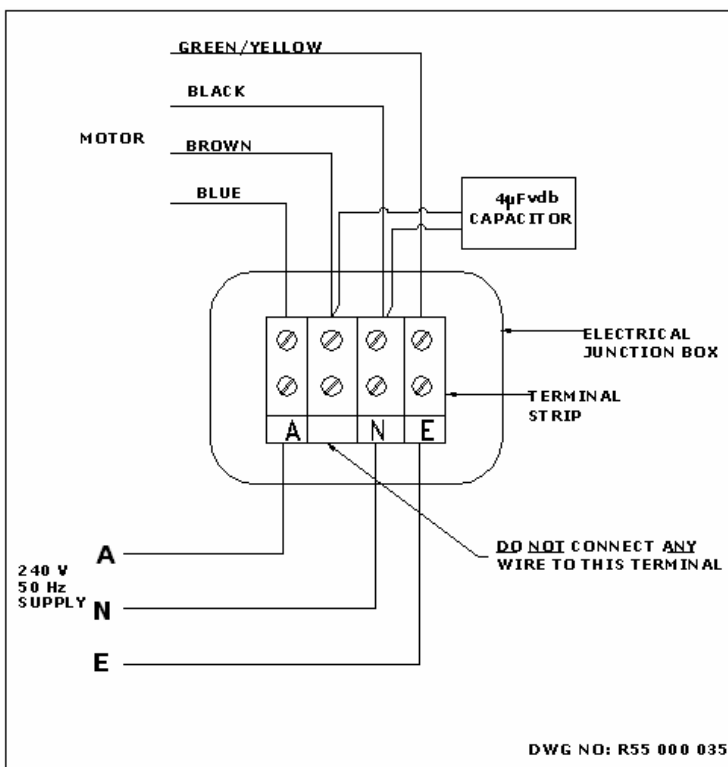
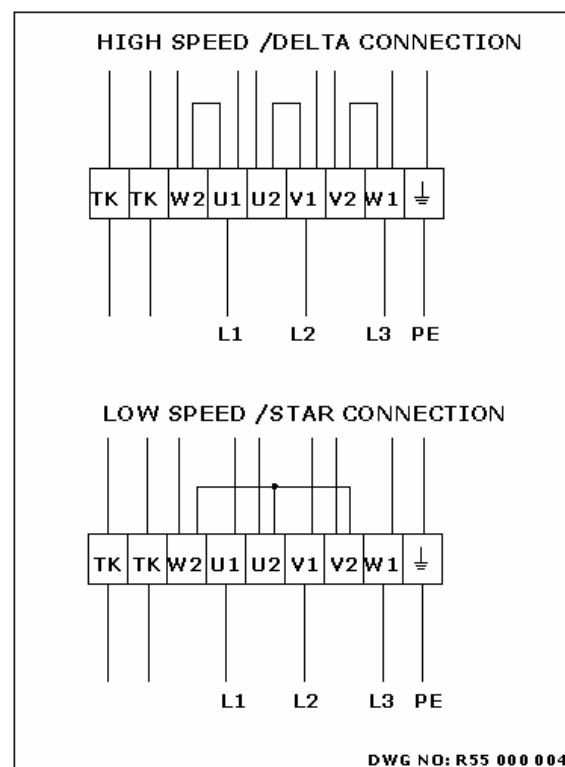

Figure 6.
Figure 7.
- These motors are to be wired in accordance with **Figure 6**. (Wiring diagram R55 000 035.)
- These motors are to be wired in accordance with **Figure 7**. (Wiring diagram R55 000 004.)
- Ensure the electrical wiring is in accordance with local electrical regulations and ensure fan motor direction is correct. (Refer: **Figure 6** and **Figure 7**.)